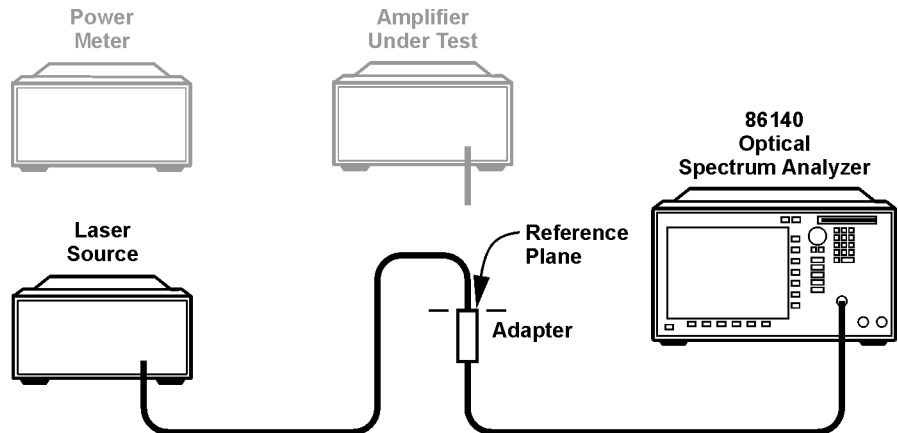

Figure 1-1. Reference Measurement
- 1 Connect the equipment as in Figure 1-1. Connect the source output and OSA input fibers at the reference plane.